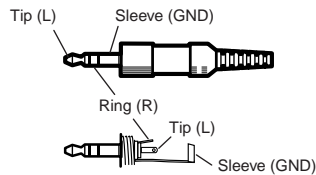
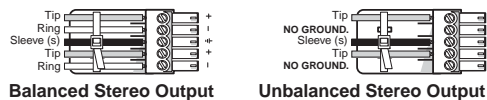

Figure 2-5 — 3.5 mm stereo audio plug
Figure 2-6 — Captive screw connector for wiring audio output
- 3 **Audio input connector** — Plug a 3.5 mm stereo plug into this jack for unbalanced audio input. Wire the plug as shown in figure 2-5. The number of inputs available varies with the switcher model.
NOTE When making connections to the switcher using existing audio cables, see figure 2-5. A stereo audio connector consists of a tip, ring and sleeve. The ring, tip, and sleeve wires are also shown on the audio output captive screw audio connector diagram, figure 2-6.
- 5 **Audio output connector** — Insert a 3.5 mm, 5-pole, one-piece captive screw audio connector into this connector. Wire the connector as shown in figure 2-6. Use the supplied tie-wrap to strap the audio cable to the extended tail of the connector.